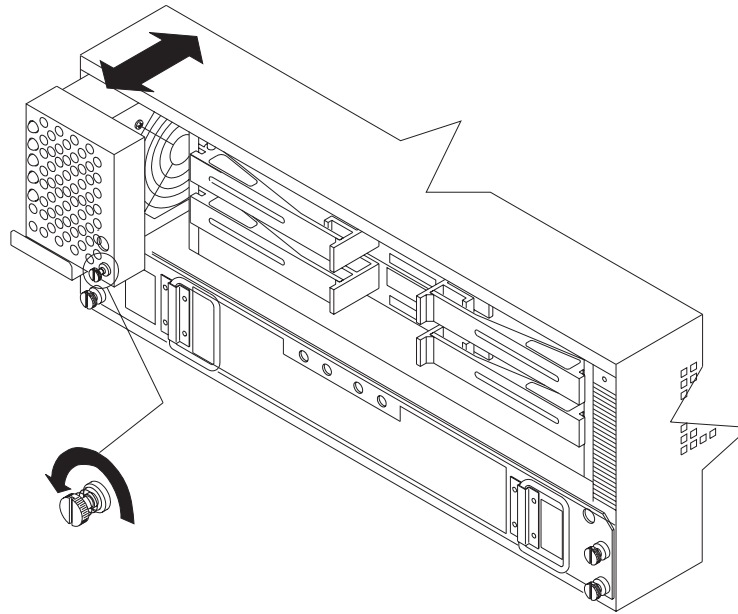

Figure 17. Removing and Installing a Controller Fan
3. Remove the failed controller fan CRU (Figure 17).
4. Install the new controller fan CRU (Figure 17).